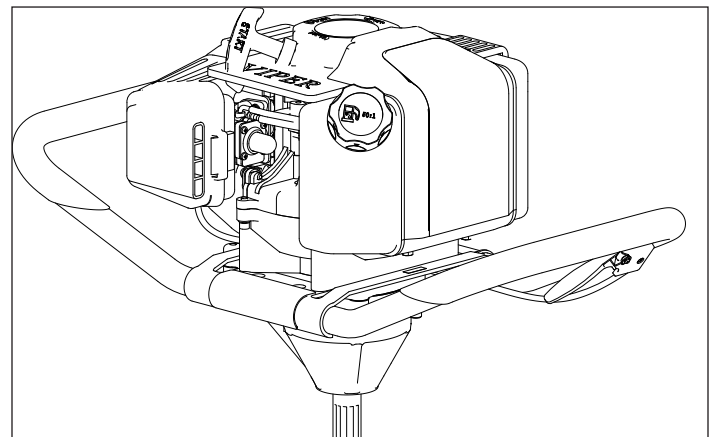

Figure 7
6. Replace the air filter cover so that it fully snaps into place and is secured by the latch tabs. Check that the cover is securely attached by pulling slightly on the cover. If the cover doesn't move when pulled, it is secure. **SEE FIGURE 7.**